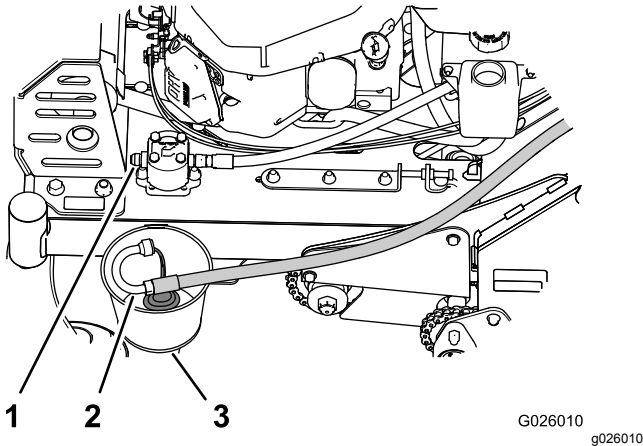

Figure 56
- At the front of the auxiliary hydraulic pump, remove the inlet hose from the hydraulic fitting in the pump, place the end of the hose in a drain container, and allow the fluid to drain (Figure 56).